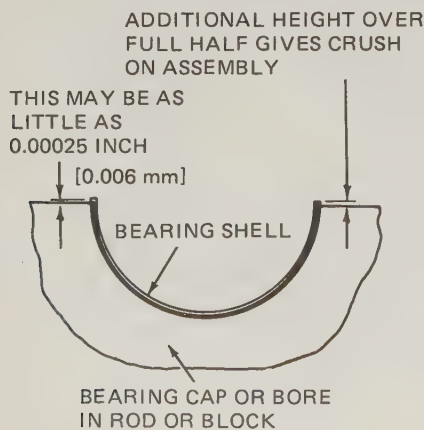

FIG. 31-34 Bearing crush.
**Bearing Crush** To make sure that the bearing shell will "snug down" into its bore in the rod cap or rod when the cap is installed, the bearings have "crush." See Fig. 31-34. They are manufactured to have a slight additional height over a full half. This additional height must be crushed down when the cap is installed. Crushing down the additional height forces the shells into the bores in the cap and rod. It ensures firm seating and snug contact with the bores.